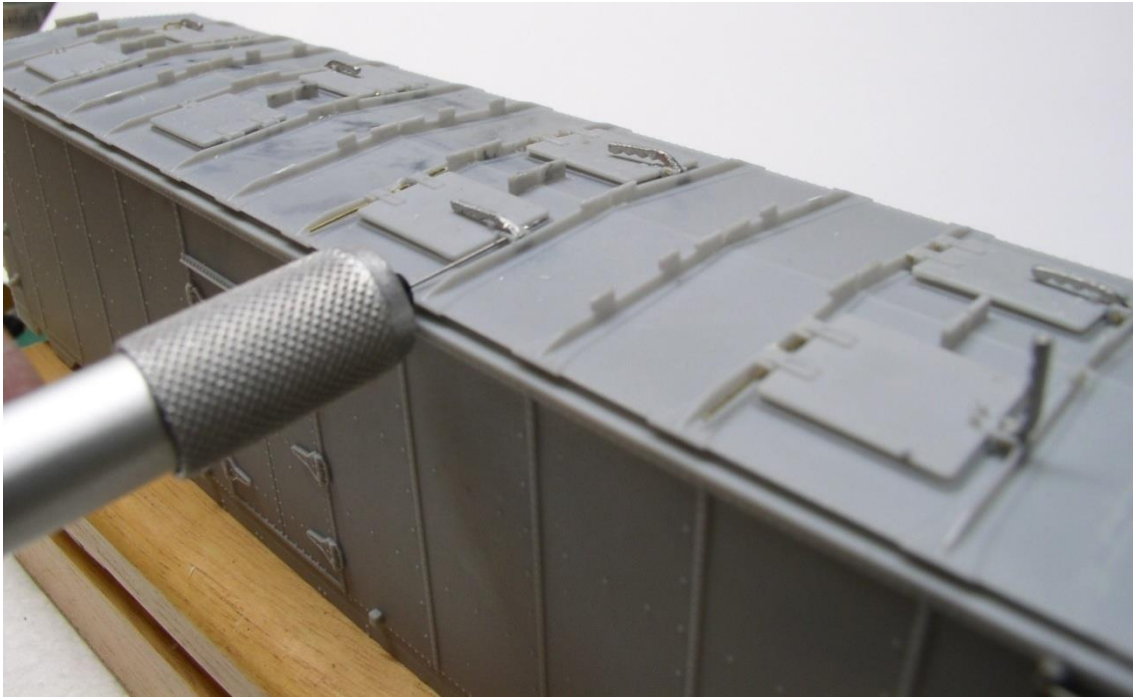

Figure OH9
10. Place one of the pewter hatch latches in the latch bracket in its down position. Drill a hole through the hatch latch brackets and the hatch latch using a 78 drill bit. Place an 8 inch piece of 0.014" brass rod through holes the hatch latch brackets and the hatch latch. Check mobility and if all is well, glue the 0.014" rod in place in place. See Figure OH9.